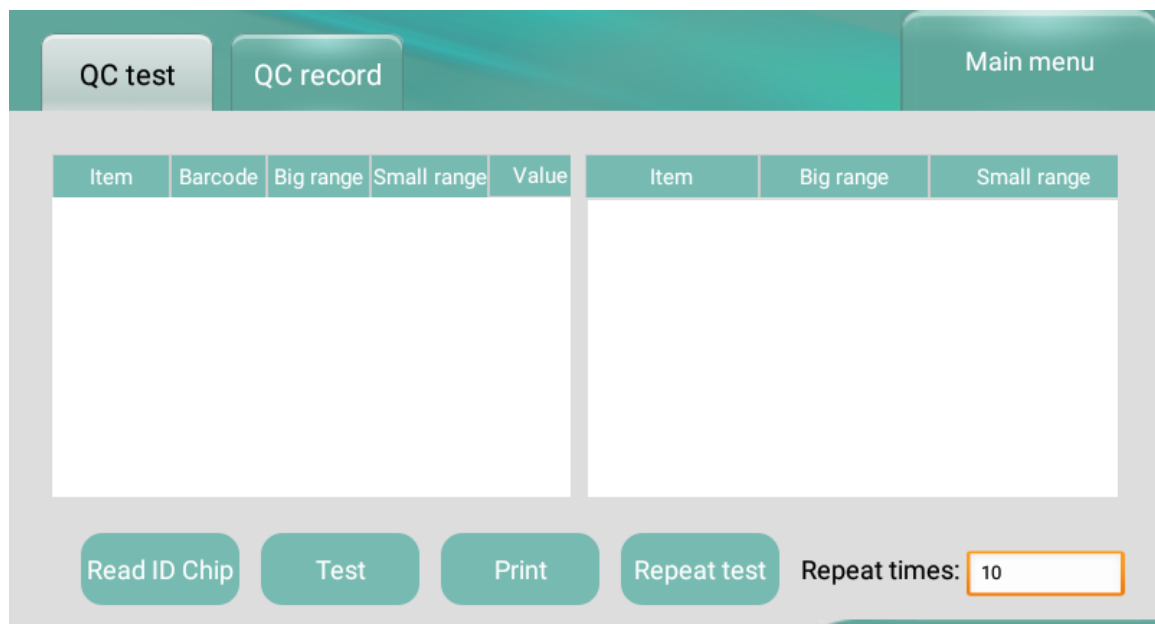

Figure 5.1.1
2. Put the QC card in the cartridge holder and press 'Test'. The analyser will give the QC result, check the value is within the set QC reference range (see Figure 5.1.1).